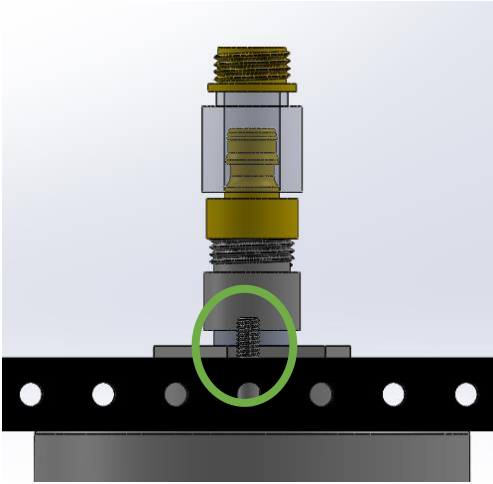
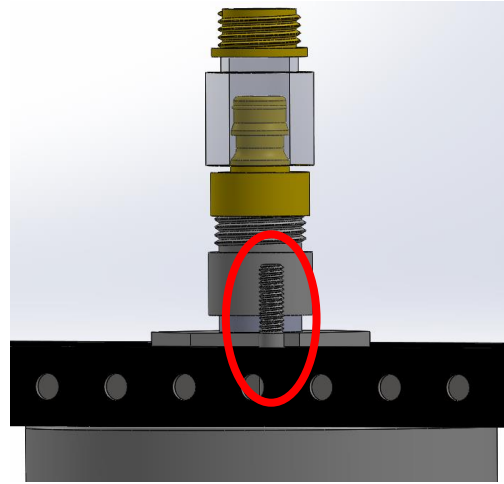

Figure 6: Correct threaded length protruding out
Figure 7: Incorrect threaded length protruding out
- a. When selecting a bolt to secure the flange adapters, be sure to pick a bolt that has only its threaded portion protruding past the flange adapter, illustrated in Figure 6 and Figure 7.